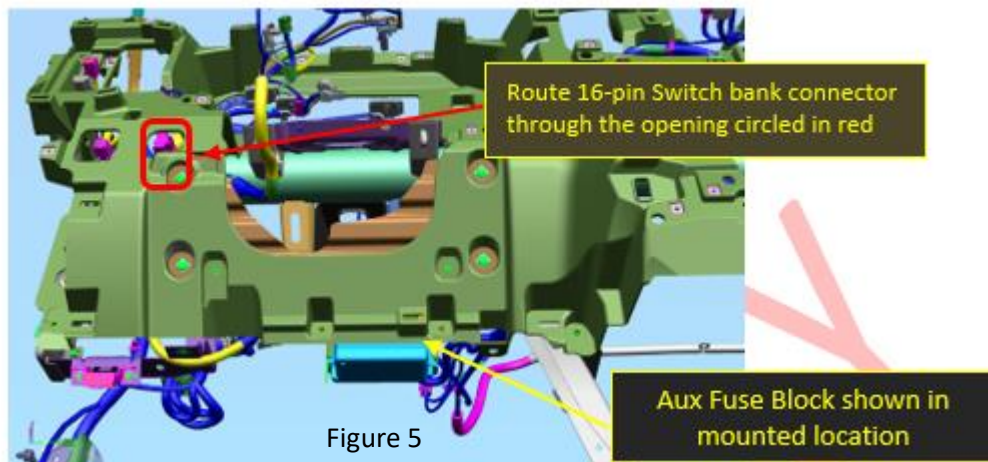

Figure 5
2. Route the 16-pin switch bank connector through the opening in the Instrument Panel as shown in figure 5